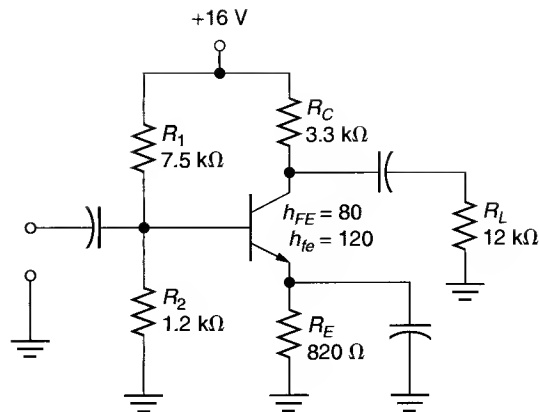

FIGURE 9.31
8. Determine the value of r'_e for the circuit shown in Figure 9.31.
10. Derive the ac equivalent circuit for the amplifier shown in Figure 9.31. Include all component values.
20. Determine the value of A_v for the amplifier in Figure 9.31.
24. The amplifier in Figure 9.31 has a 22 mV input signal. Determine the value of v_{out} for the circuit.
26. Determine the value of A_p for the circuit shown in Figure 9.31. Assume that the circuit has a value of $A_i = 11$.
32. Calculate the open-load voltage gain for the circuit shown in Figure 9.31.
36. Determine the values of $Z_{in(base)}$ and Z_{in} for the amplifier in Figure 9.31.